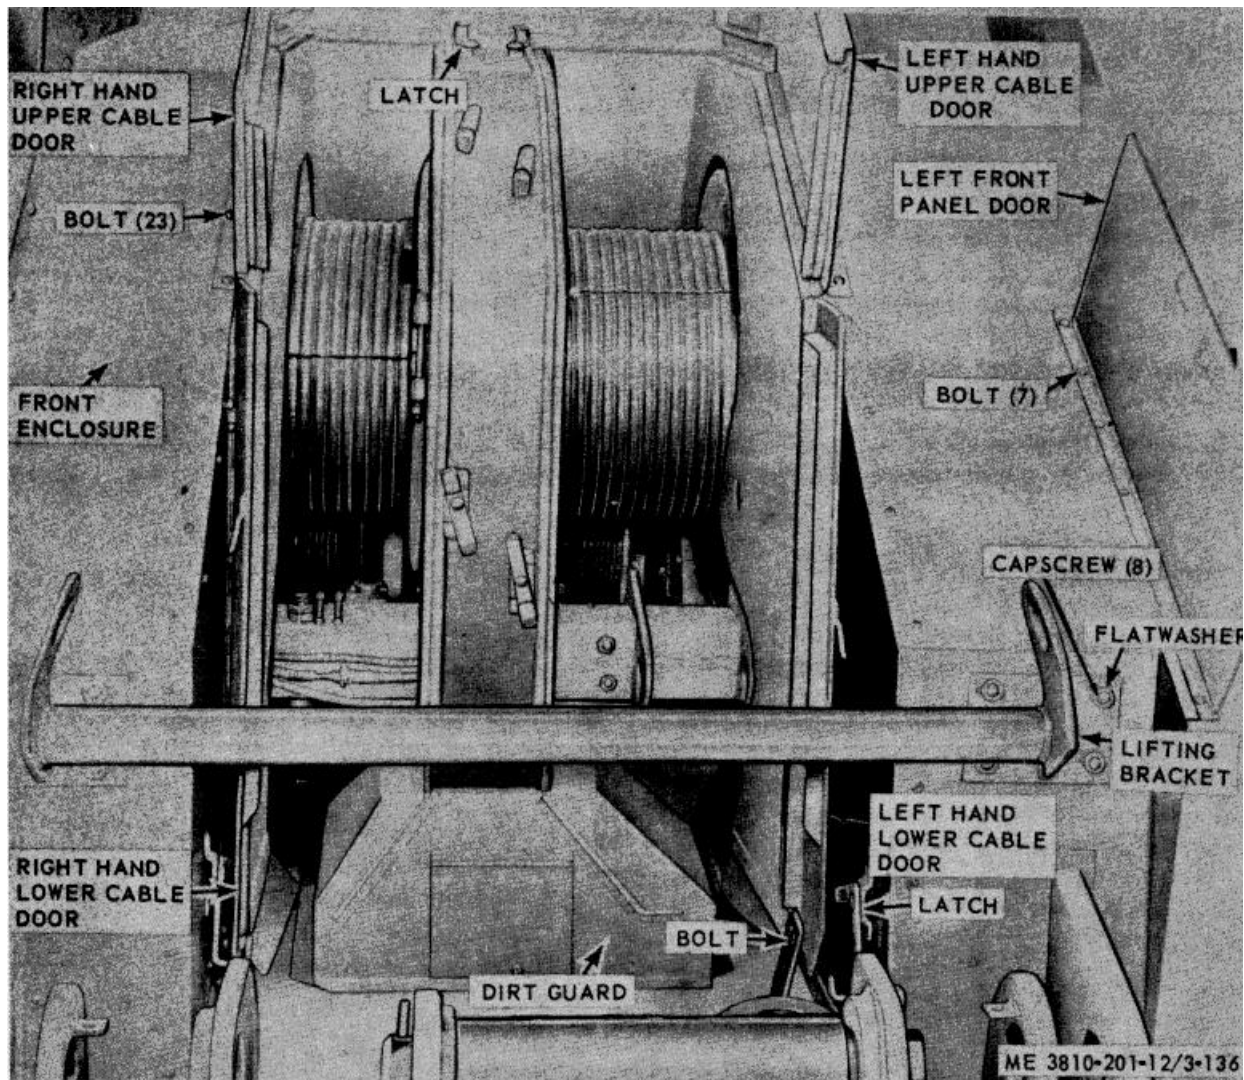

Figure 3-136. Upper and lower doors (winterized models) removal and installations.
(1) Refer to figure 3-136, remove mounting hardware, and remove upper cable doors.
(2) Install in reverse order.